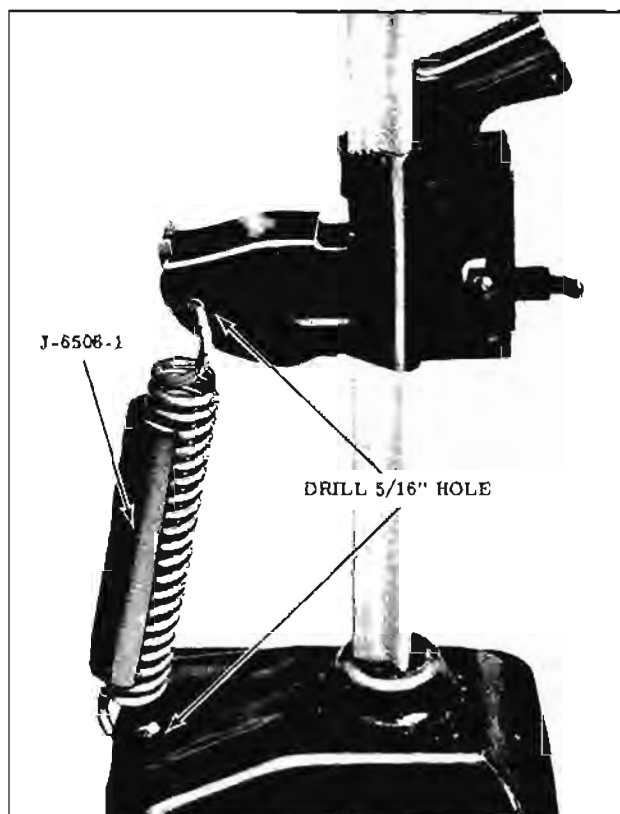

Fig. 12-8 Installing Hinge Spring Tool
- NOTE: When installing new spring, a suitable expander must be used to stretch the spring so that Tool J-6506-1 can be placed over the spring. (Fig. 12-8)